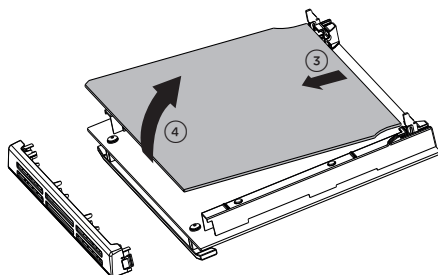

Fig. 10.15
- Gently lift and pull out the inner pane of glass by releasing it from the bottom retainers. Do not angle the pane too much as you may damage the glass (fig. 10.15).